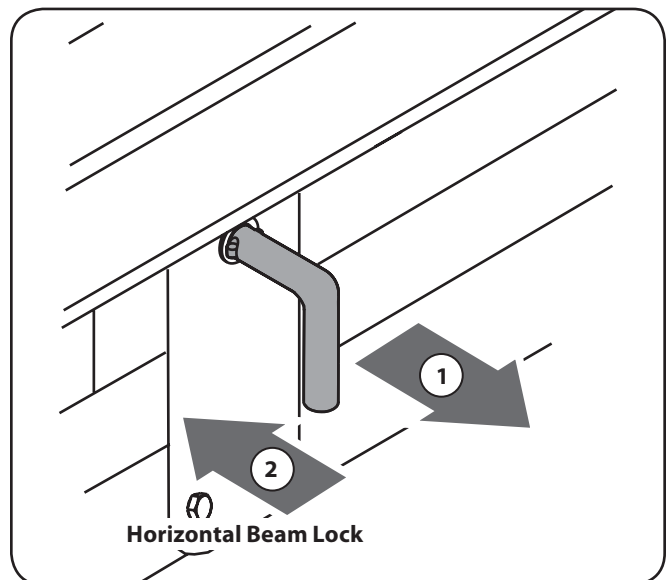

Figure 5-3
- b. The horizontal beam lock is self-locking. The spring loaded lock will snap into place when the beam is lowered into position. See Figure 5-3